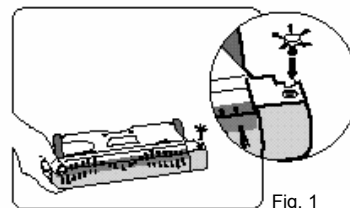

Fig. 1
1. Insert the Edging Tool into the "square" hole under the bottom of the sweeper power head. Gently but firmly push until the edging tool locks into place. (See fig. 1)